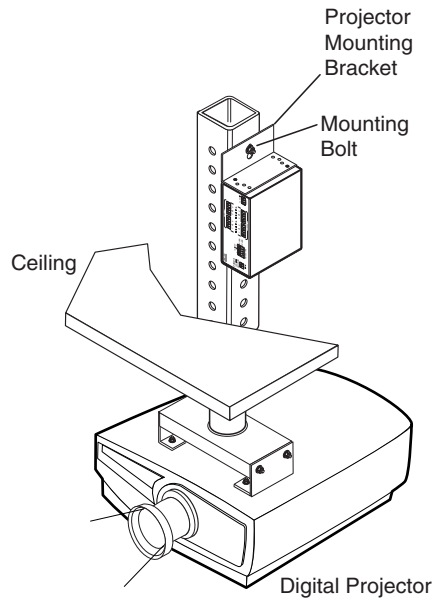

Figure 18. Mounting the RAC 104 on a Projector Mount
3. Secure the RAC 104 to a projector mount or other surface by inserting the mounting bolt through the bracket slotted hole, as shown in figure 18.